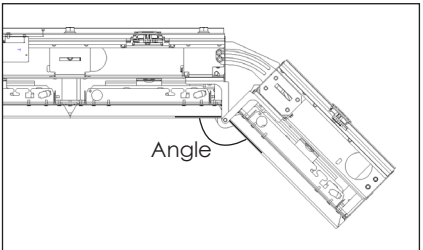

Figure 20: Set Wing at Appropriate Angle
3. Set the wing at the necessary angle to engage the left and right sections. The hinge adds a gap (seam) between the module columns, which is necessary for top-access module removal via the module pan sliders. Refer to **Figure 20**.